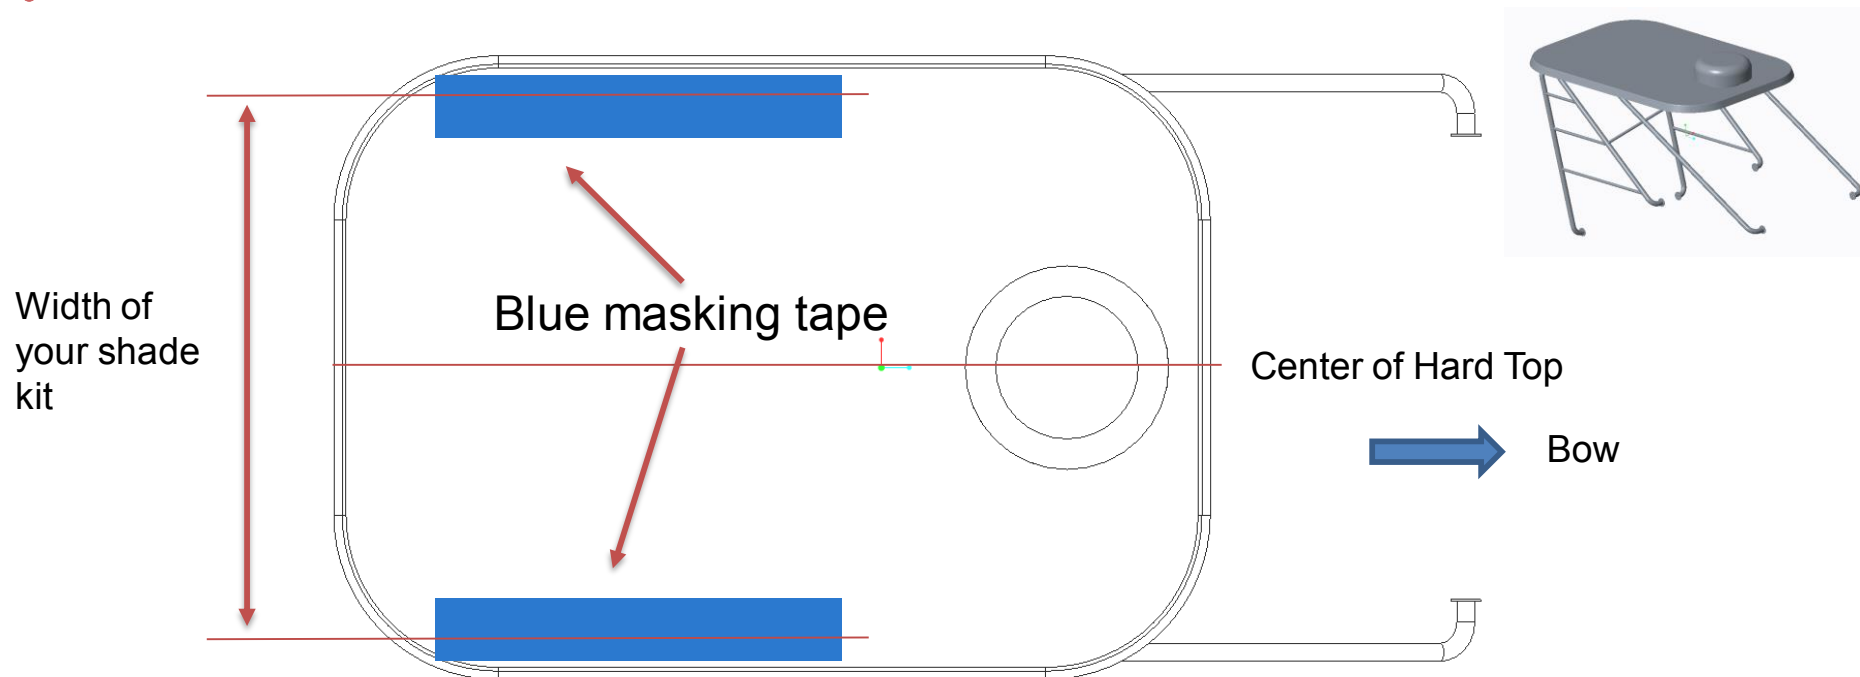

Figure 4
- The distance between the lines should be exactly the width of the shade kit as ordered. For example: If width of shade kit ordered is 60", the distance between the scribed lines should be 60". See figure 4